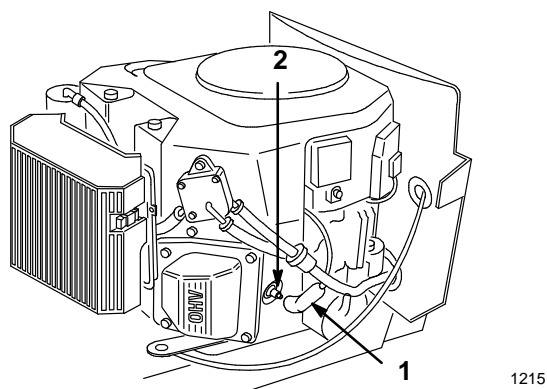

Figure 21
3. Pull the wire(s) off the spark plug(s) (Fig. 21). Now clean around the spark plug(s) to prevent dirt from falling into the engine and potentially causing damage.
3. Push the wire(s) onto the spark plug(s) (Fig. 21).